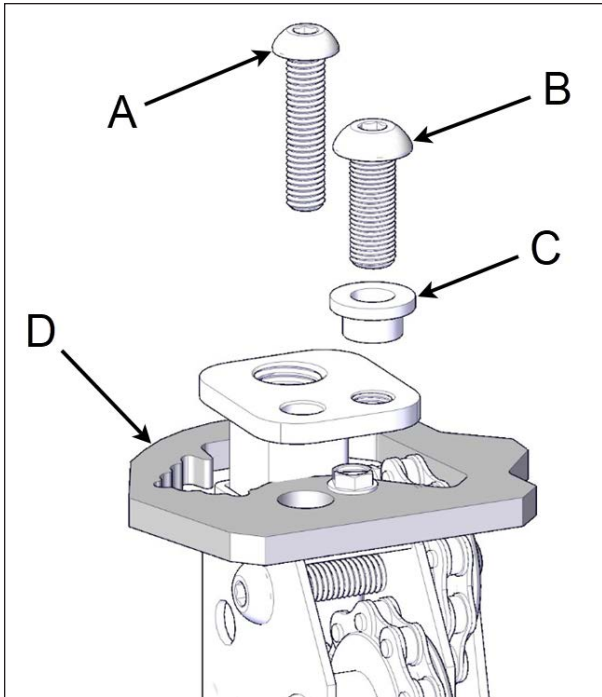

FIGURE 56: JACK LOCK SCREW
- Once all the drive shafts are installed, the jack lock screws located at the top of the non-motor-side jacks can safely be removed. Remove the Allen M8 x 50 mm screws and keep them for future use see Figure 56.
17. Unscrew the 3/8" x 1" Allen bolt with a 7/32" (5.5 mm) socket on the top of all four jack assemblies. Put these parts in safe location see Figure 56.